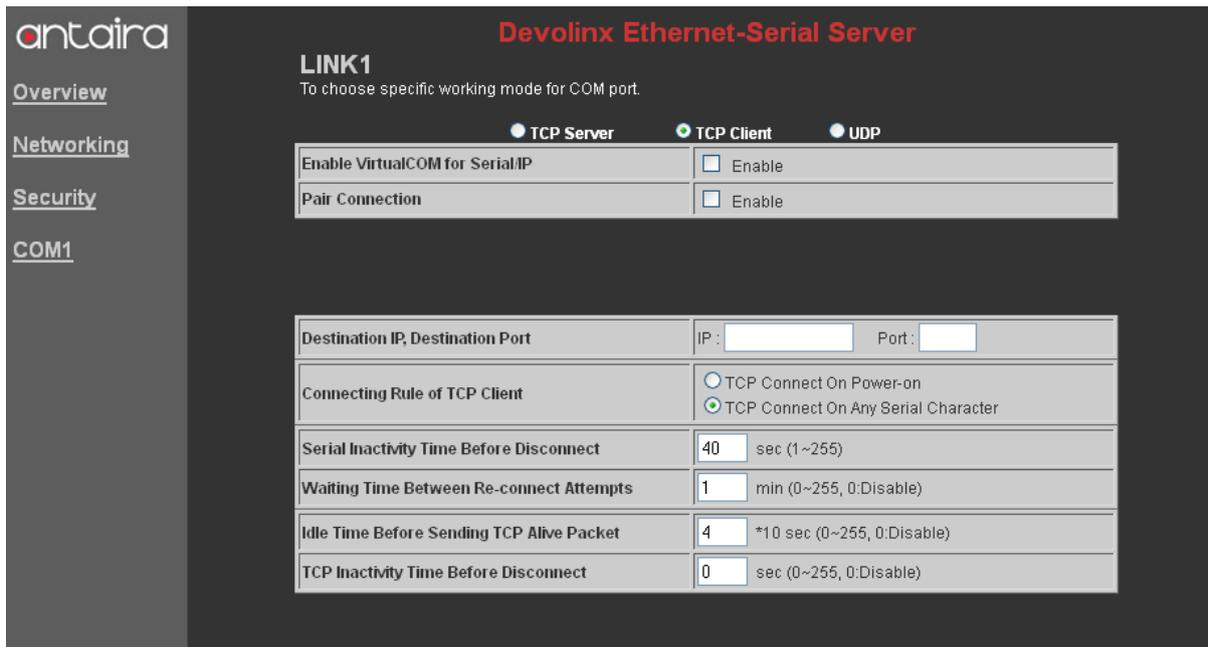

Figure 3.22 Com1 setup-TCP client
- ➔ Configure STE-501C as TCP client, for example the destination IP is 10.0.29.11, destination port is 4660 .(Figure 3.22)